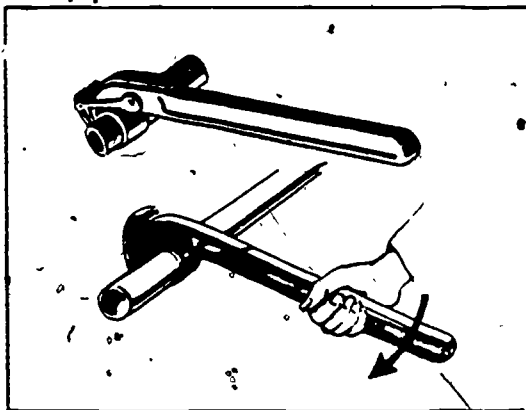

Figure 3-44. Strap wrench.
**Strap wrench.** The strap wrench, illustrated in figure 3-44, is used on brass, copper, and chromium-plated pipes and fittings, because it will not scratch or mar the finished surfaces. It has a thick canvas strap instead of a chain or jaws to grip the pipe. Rosin is applied to the surface of the strap wrench to keep the strap from slipping. Keep the strap wrench clean. Occasionally it is necessary to replace the strap in the wrench.